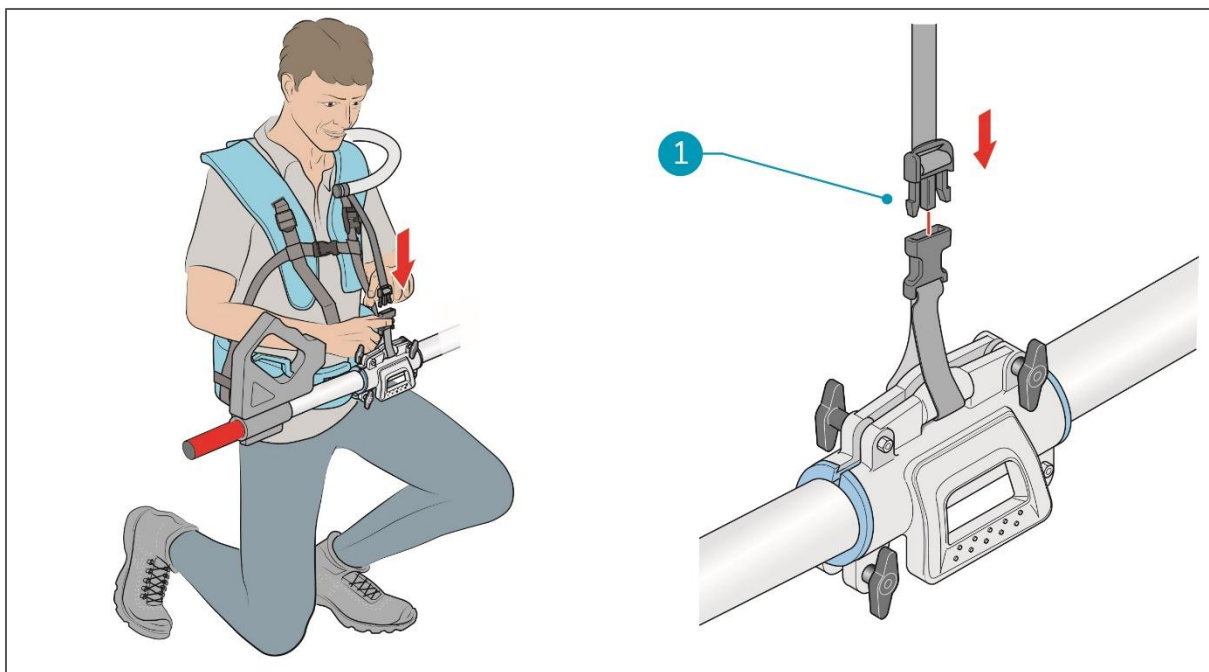

Figure 24
6. Kneel in front of your telescopic power wash pole and connect the carrier with the strap on the support tube (Figure 24, pos. 1).